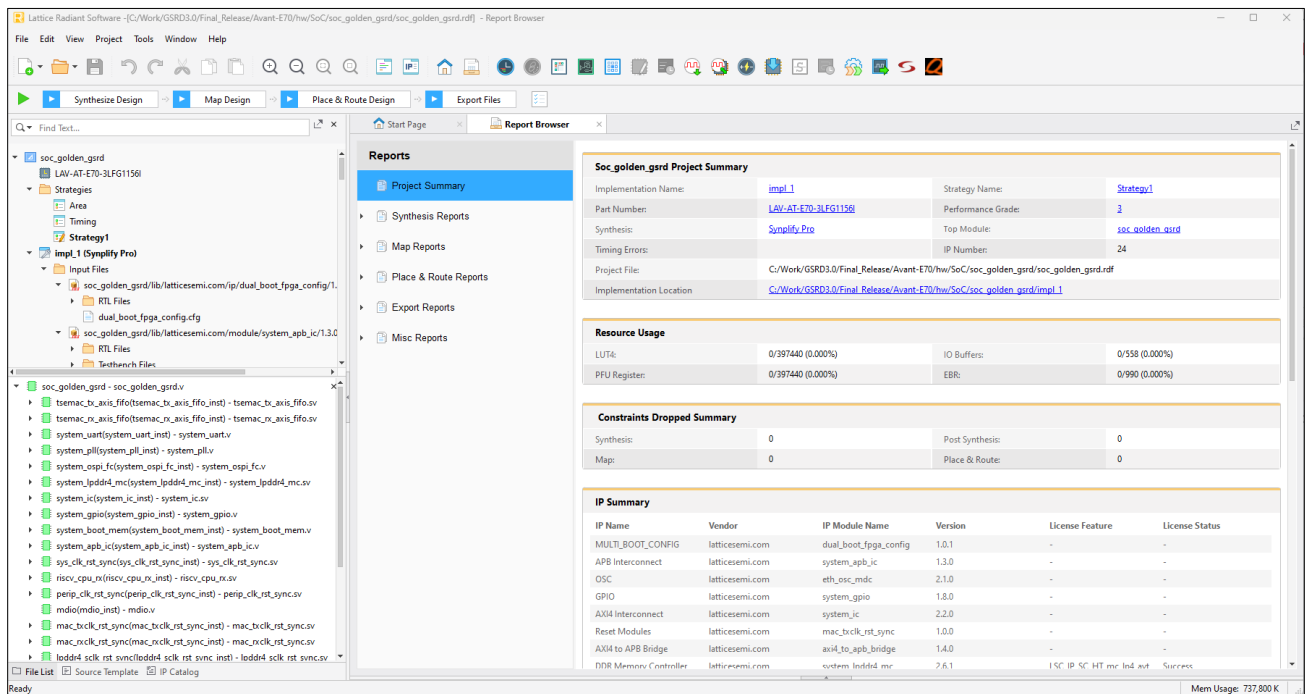

Figure 7.12. Lattice Radiant Window
2. The Radiant window of your project is launched as shown in Figure 7.12.